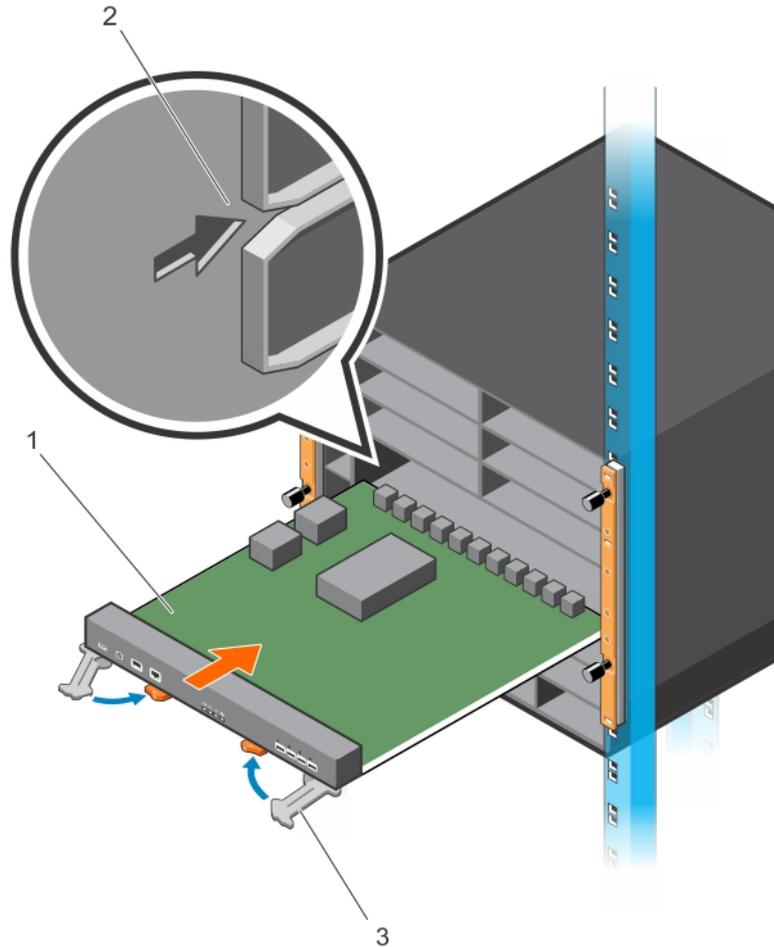

Figure 22. Inserting the First RPM in the Chassis
- The arrow in slot 10 (item 2 in Figure 22; labelled R0 on the chassis) identifies the slot in which you insert the first RPM. Align the card with the guide and gently slide it into the slot by holding the two ejector levers in the fully open position and pushing the card forward. You should feel the backplane connectors on the RPM engage with the chassis backplane.
- Push in the levers (item 3 in Figure 22) until the thumb tabs pop up and the card is fully inserted in the slot. The ejector levers hide under the card.